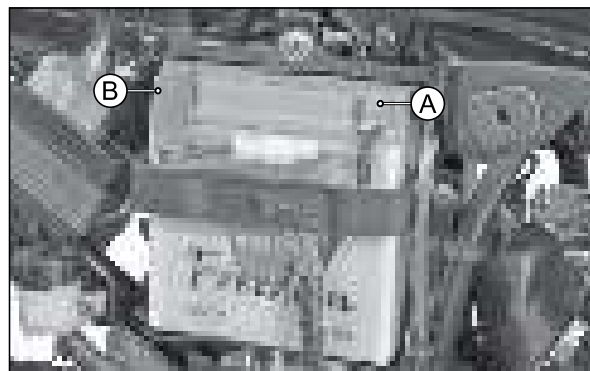

Fig. 5.89
- Disconnect the battery's negative terminal (A) first and then positive terminal (B). (Fig. 5.89)